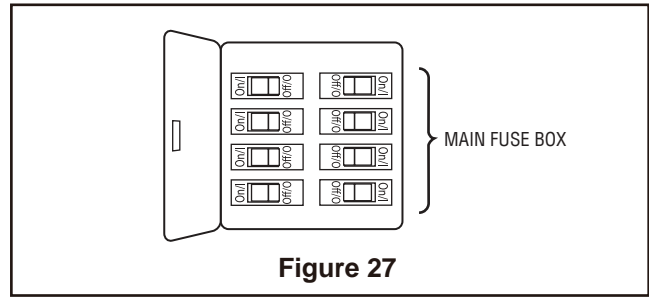

Figure 27
- 1. Restore electrical power to the outlet box by turning the electricity on at the main fuse box (Figure 27).